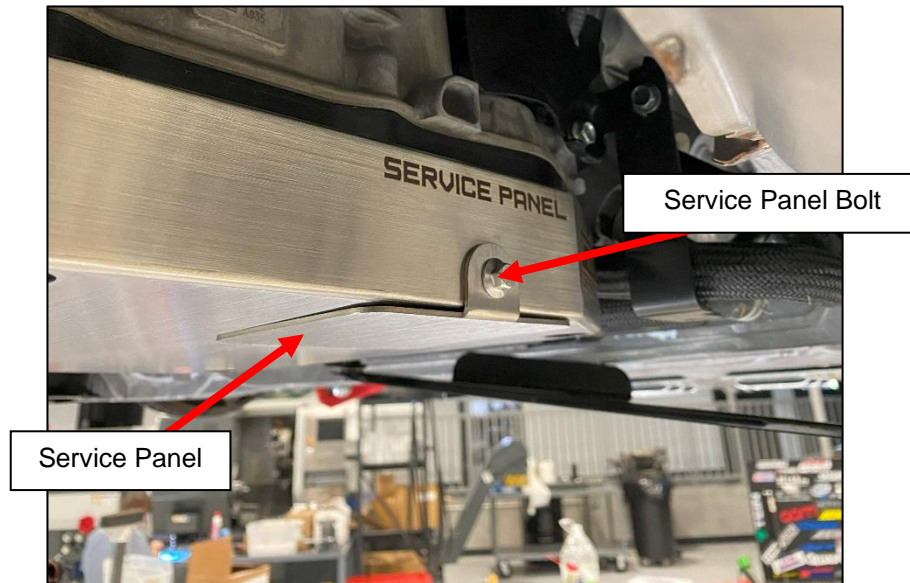

Figure 3
6. Locate the Transmission Service Panel and the (1) one M6 bolt removed in *Step 4*. Reinstall them onto the Z1 Transmission Cover Shield. *Figure 3*.